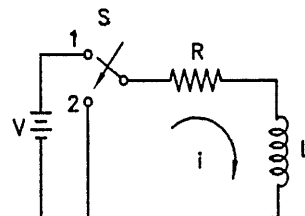

FIG. 1.177 : DECAY OF CURRENT IN INDUCTIVE CIRCUIT
- An inductive circuit containing resistance R and inductance L in series is shown in Fig. 1.177.